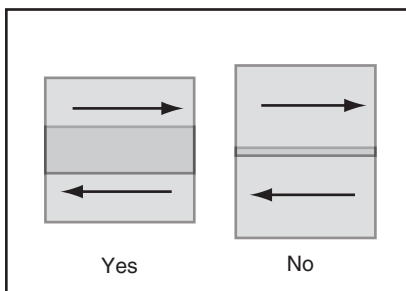

Figure 11. Overlap technique.
14. Overlap each stroke by 50%. This will ensure even coverage as shown in **Figure 11**. Less than 50% as shown in the figure to the right may lead to missed spots or streaky results.